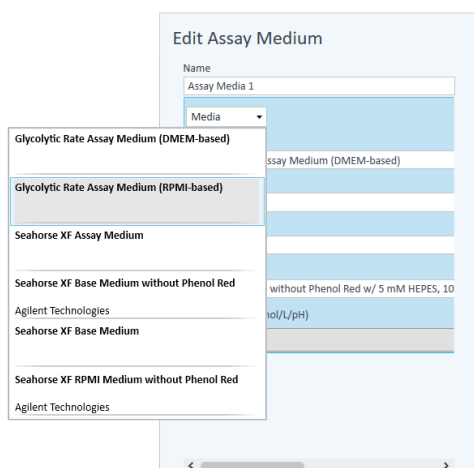

Figure 2. Assay medium media menu.
4. To select the assay medium, use the **Media** catalog drop-down menu. (See Figure 2.)